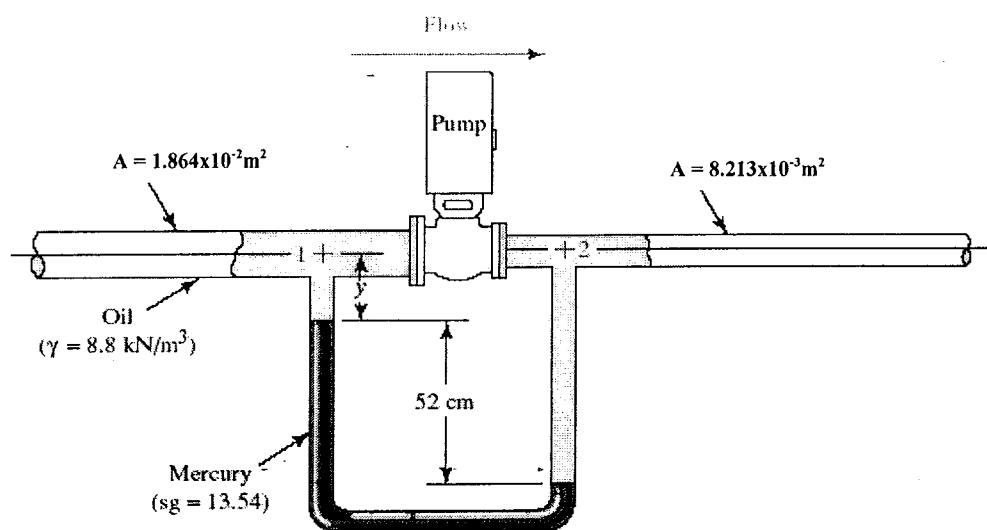

Figure 5 / Rajah 5
4. [a] For the pump test arrangement shown in Figure 5, determine the mechanical efficiency of the pump if the power input is measured to be 2.87 kW when pumping 125 m³/h of oil ($\gamma=8.8 \text{ kN/m}^3$).